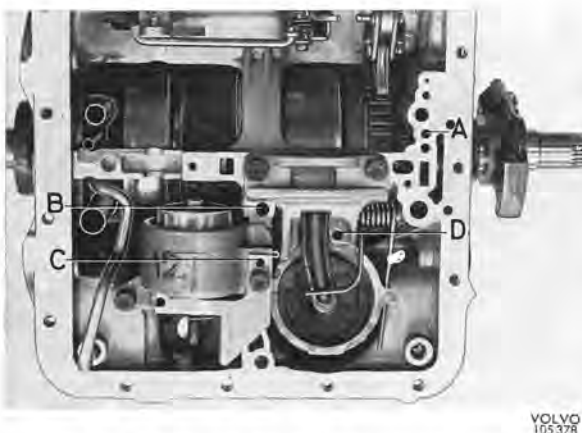

Fig. 4-76. Functioning test with compressed air
Apply air pressure to the passage (5) of the transmission case rear wall, see Fig. 4-76. Listen for a thump, indicating that the clutch is functioning. On the bench, also verify by rotating the input shaft with air pressure applied.